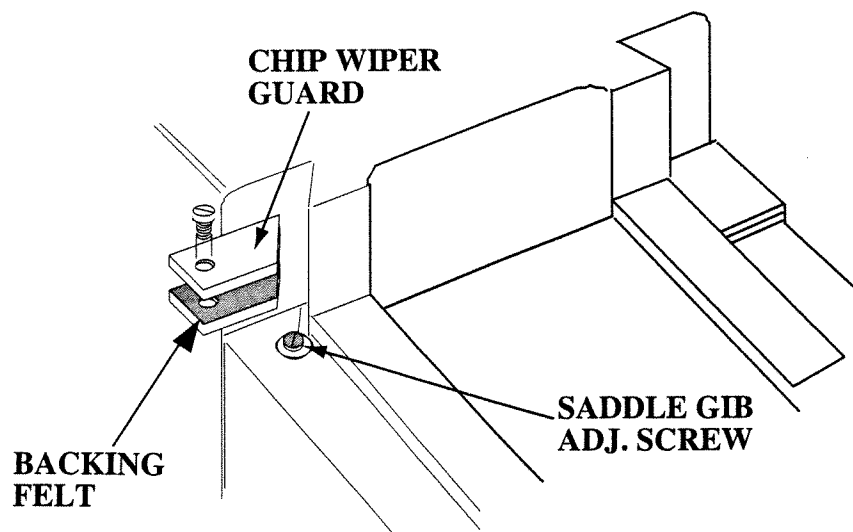

Figure 9-11. Adjustment of Knee Gibs
9.11 ADJUSTMENT OF KNEE GIB (Figure 9-11)